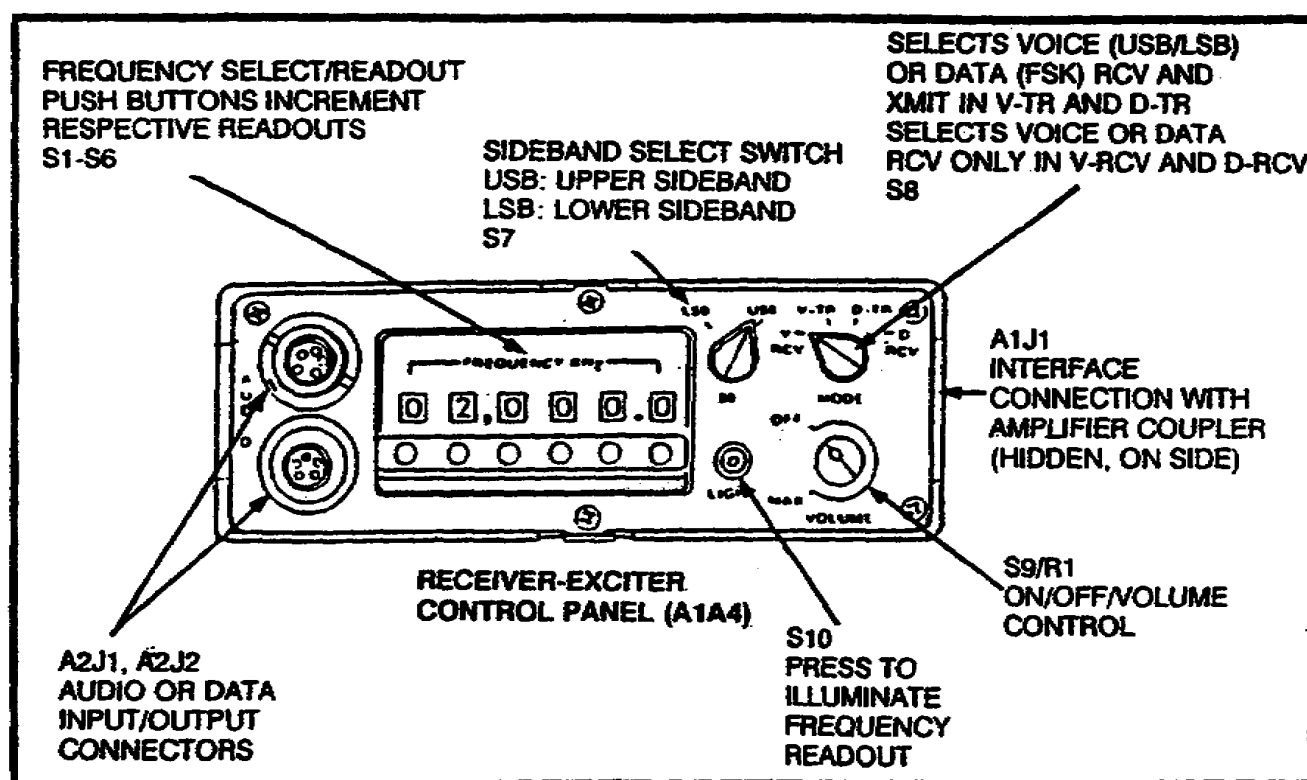

Figure 4. RT-1209/URC receiver-transmitter.
d. In addition to the installation kit, the AN/GRC-193A is made up of four major components (shipped separately), three audio accessories, and eight cables. The components are the RT-1209/URC receiver-transmitter (RT), the AM-6879/URC amplifier converter, AM-6545 amplifier, and the CU-2064 antenna coupler. The audio accessories include the handset H-250, continuous wave (CW) key KY-872, and headset H-140. The RF output cable, battery cable CX-4720, and the RF interconnect and control cables are part of the installation kit. Remote antenna kit MT-6378/GRC-193A with antennas AT-1011, AS-2259, and AN/GRA-50 are also included in the installation kit. The PP-7333 power supply is furnished to operate the radio when mounted in the S-280A communications shelter.
e. The RT-1209/URC is the receiver-exciter in the AN/GRC-193A. It is used in AN/PRC-104A as well as AN/GRC-213 IHFR radio sets (Figure 4). The RT-1209/URC is a lightweight, compact RT. It provides 250 milliwatts (mW) of RF from 2 megahertz (MHz) to 29.9999 MHz in 100-hertz (Hz) steps providing 280,000 distinct frequencies. It is a single sideband RT with selectable upper or lower sideband. It has a MODE switch providing voice receive, voice receive and transmit, data receive, and data receive and transmit. It also has a VOLUME control labeled OFF/MAX, a push-button switch labeled LIGHT that turns on a lamp inside the frequency windows, and six one-way push-button switches for setting frequency. The frequency switches are one way only. Once the number you want passes the window, you must continue pressing the switch until the proper number rotates back into the window from 00.0000 MHz to 29.9999 MHz in 100-Hz steps. There are two audio jacks on the face of the RT and an A1J1 interface multipin connector on the side, which connects to the AM-6879.